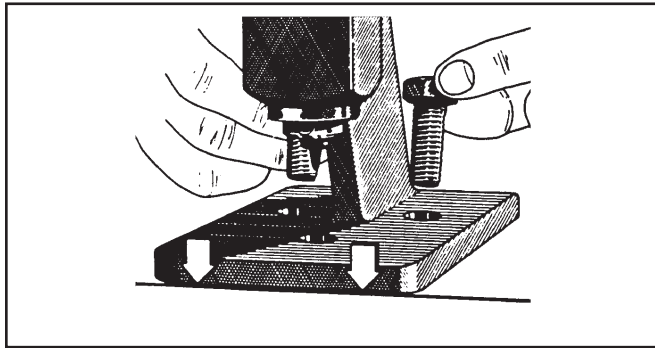

Figure 12. Chain Breaker Mounting
1. Mount the chain breaker flush with the side or front of a flat, clean work surface (Figure 12).